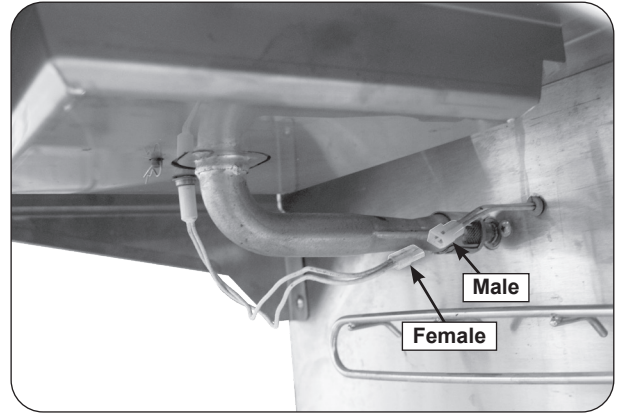

Fig. 22-1 Igniter wire connection
4. Connect the female connector on the end of the hot surface igniter wire to the male connector coming from inside the grill. See Fig. 22-1.